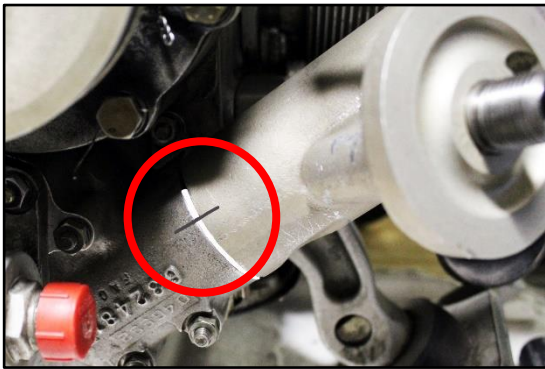
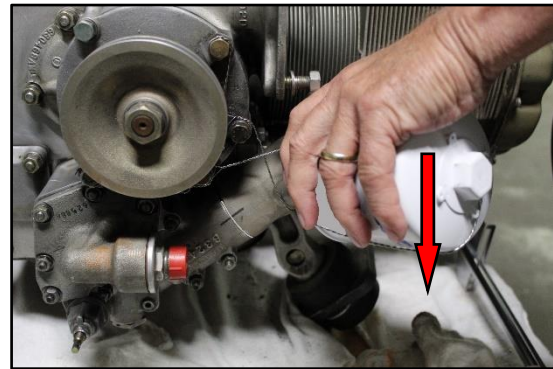

Figure 1
Figure 2
- a. Use a fine point felt pen to make a match mark on the sleeve and oil pump housing as shown in Figure 1. While standing beside the aircraft, grasp the oil filter and, using the filter as a lever (or ‘handle’), apply approximately 10 to 20 pounds of force in an attempt to rotate the filter sleeve in a counter-clockwise direction around the spool, see Figure 2. (Note: You are not trying to unscrew the filter itself. You are trying to make the sleeve rotate about the spool). Check the match marks for movement of the sleeve. If ANY displacement of the match marks occurred and/or any movement of the sleeve, the spool, or both are detected, no matter how slight, proceed directly to Paragraph 4.